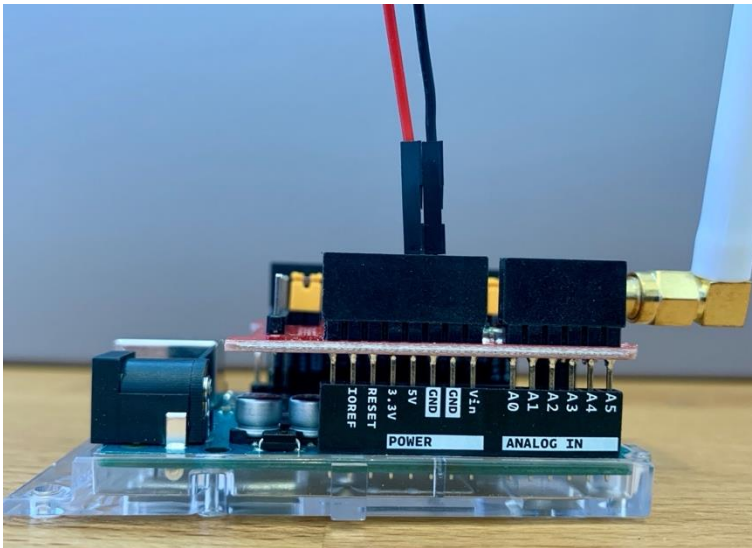

Figure 11: Black wire, connected to a GND terminal
- b. GND (black wire) to GND terminal ( Figure 11)